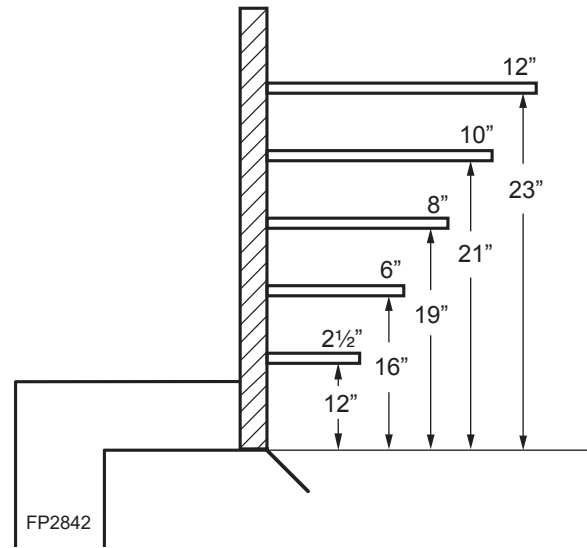
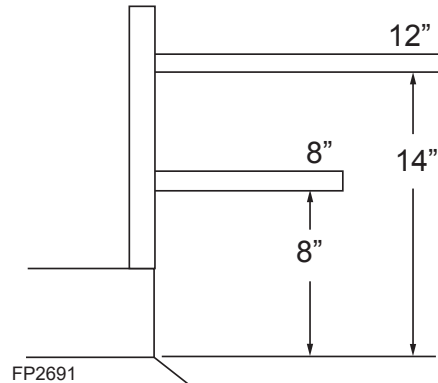

Figure 7a - Mantel Clearances
Figure 7b - Mantel Clearances for Wide Profile Canopy Only
5. **Mantel clearances:** The canopy supplied with the unit must be installed. If a combustible mantel is installed, it must meet the clearance requirements as shown in Figure 7a. However, if lower mantel height is desired, refer to Figure 7b.